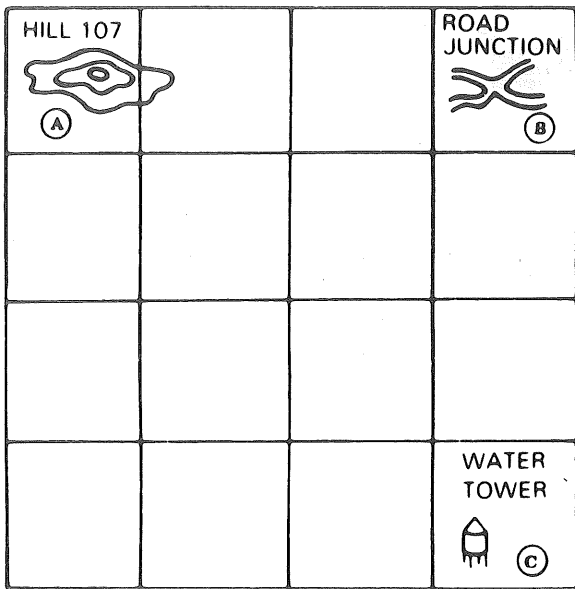

Figure 1a.
**Step 2:** Locate two known positions on the ground and mark them on your map (fig 1a).